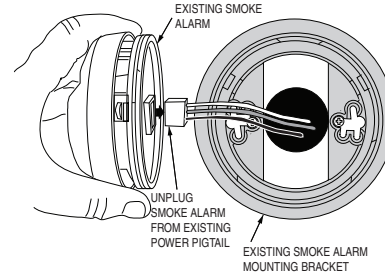

Figure 3. Unplug Pigtail of Existing Smoke Alarm
Once all (3) three wiretaps have been installed (Figure 8), reattach the electrical wire pigtail to the back of the smoke detector unit and mount the smoke alarm on the mounting base (Refer to Figure 3).